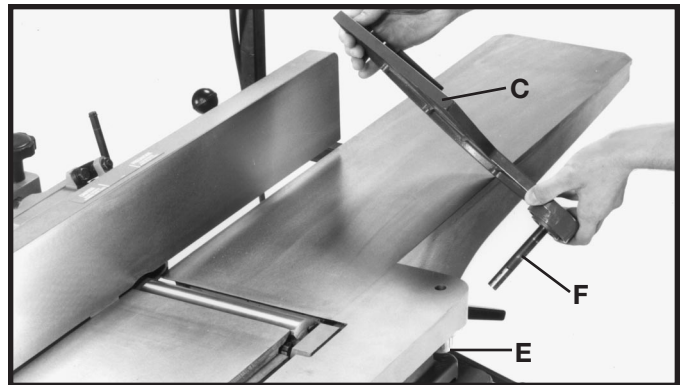

Fig. 20
2. Thread set screw (B) Fig. 21 back into post (F) Fig. 20, to keep cutterhead guard (C) in position during jointer operation.